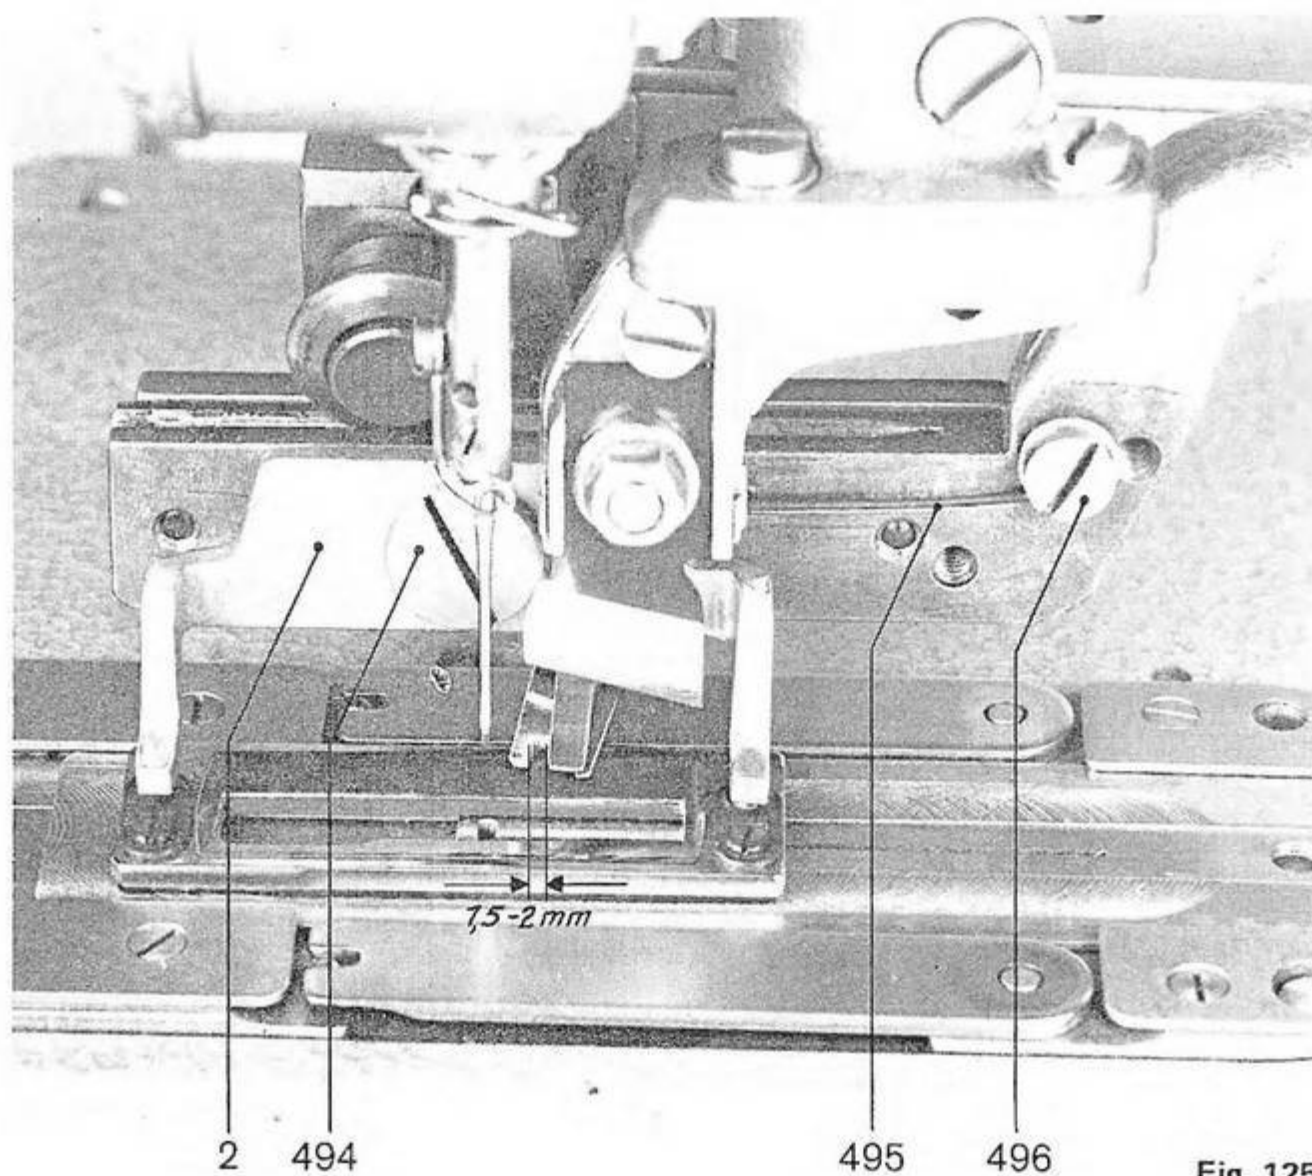

Fig. 125
14. Turn the crank until the roller bolt lever 441 (fig. 115) has reached its extreme l/h position and the scissors are open. In this position the scissors must be opened 1.5 to 2 mm. See fig. 125.
The cloth presser frame 2 (fig. 125) can be changed after removing the screw 494.
Loosen the screw 496 and adjust the spring 495 (fig. 125), that holds the cloth presser frame in a determinate position, so that at the moment when the cloth presser frame touches the throat plate the bottom of the frame is parallel to the throat plate surface.